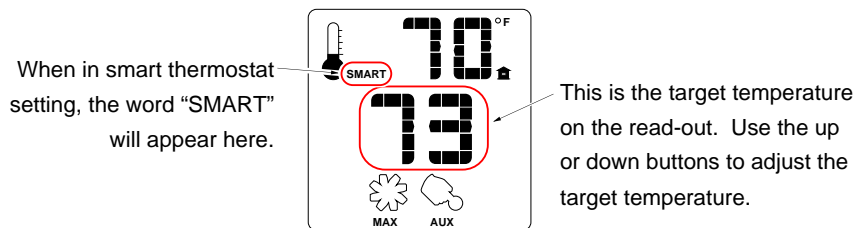

Figure 7
- **SMART THERMOSTAT** – While in smart thermostat, the transmitter will control the burner to achieve the target temperature (see Figure 7 below). Flame height will be adjusted up or down to allow operation without turning the burner on and off (also called "smart modulation"). To adjust the target temperature, press the up and down buttons until a suitable temperature is achieved.